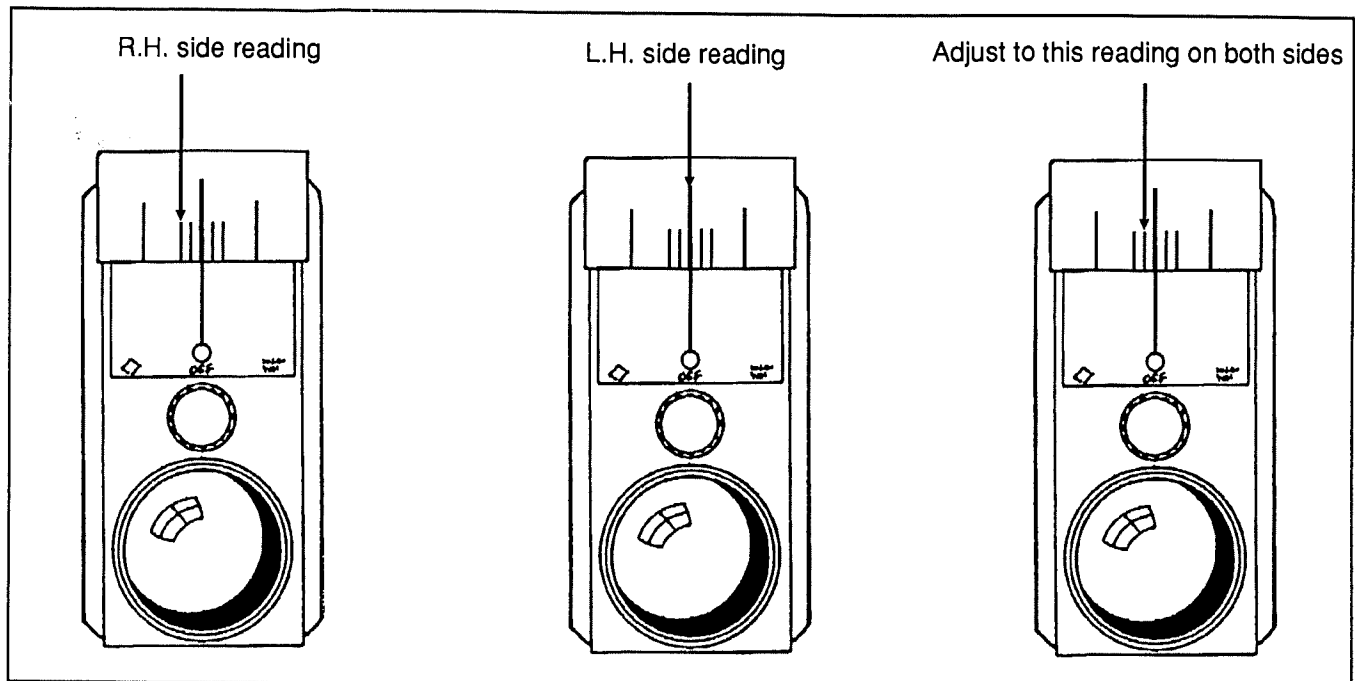

FIG. 5 - Readings on projector
6. Loosen suspension support retaining bolts (4) on each side of axle.
7. Loosen locknuts, then adjust (tighten or loosen) setscrew on axle so that the mark on projector will be equal on both sides; refer to figure 5 for details.